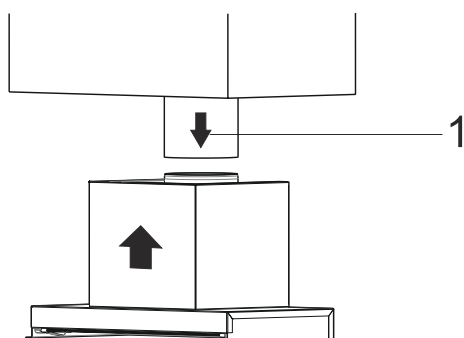

Fig. 11
2. → Place the air discharge pipe on the plastic flue on the hood (Fig. 11).
Place the front surface of the hood in full contact with the front surface of the cupboard.(Fig. 11).